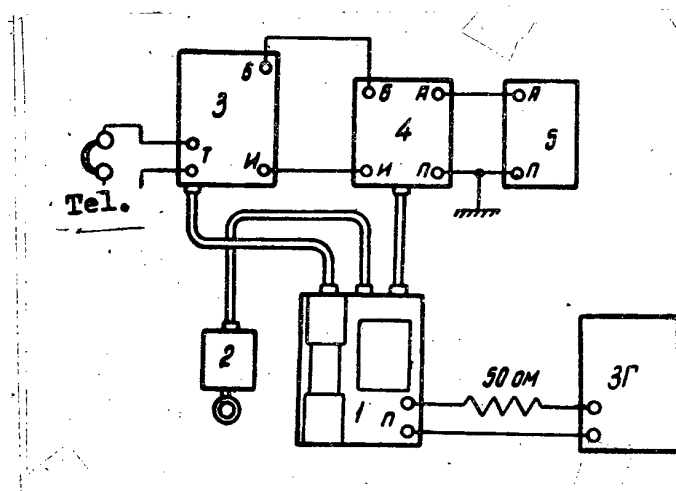

Figure 13: Block diagram of the instruments required for checking of the power output check.
1. Assemble the circuit shown in Fig. 13.